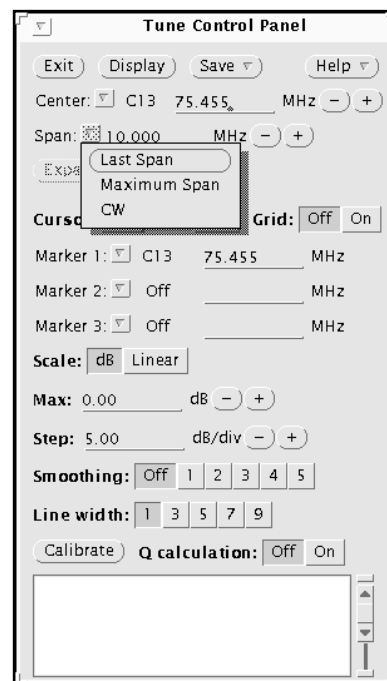

Figure 27. Pull-Down Menu For Span
2. In the **Span** field, click on the triangle to open the Span pull-down menu (see Figure 27).